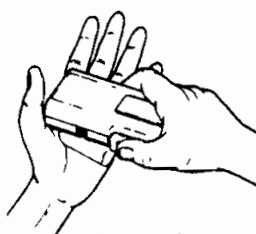

Figure 1d.
3. Gently tap the battery end of the radio against the palm of your hand as shown in Figure 1d.